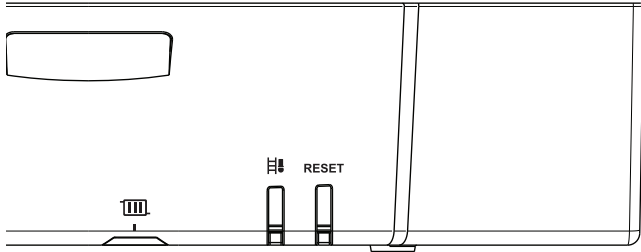

Fig. 4
4.3.1 User Interaction Controller (Fig. 4)